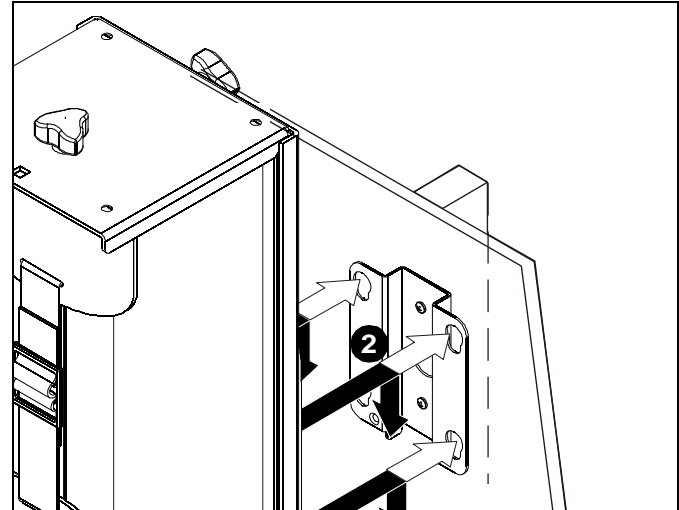

Figure 15
2. Insert mounting buttons into the four large mounting holes on the bracket and lower into place. (See Figure 15)